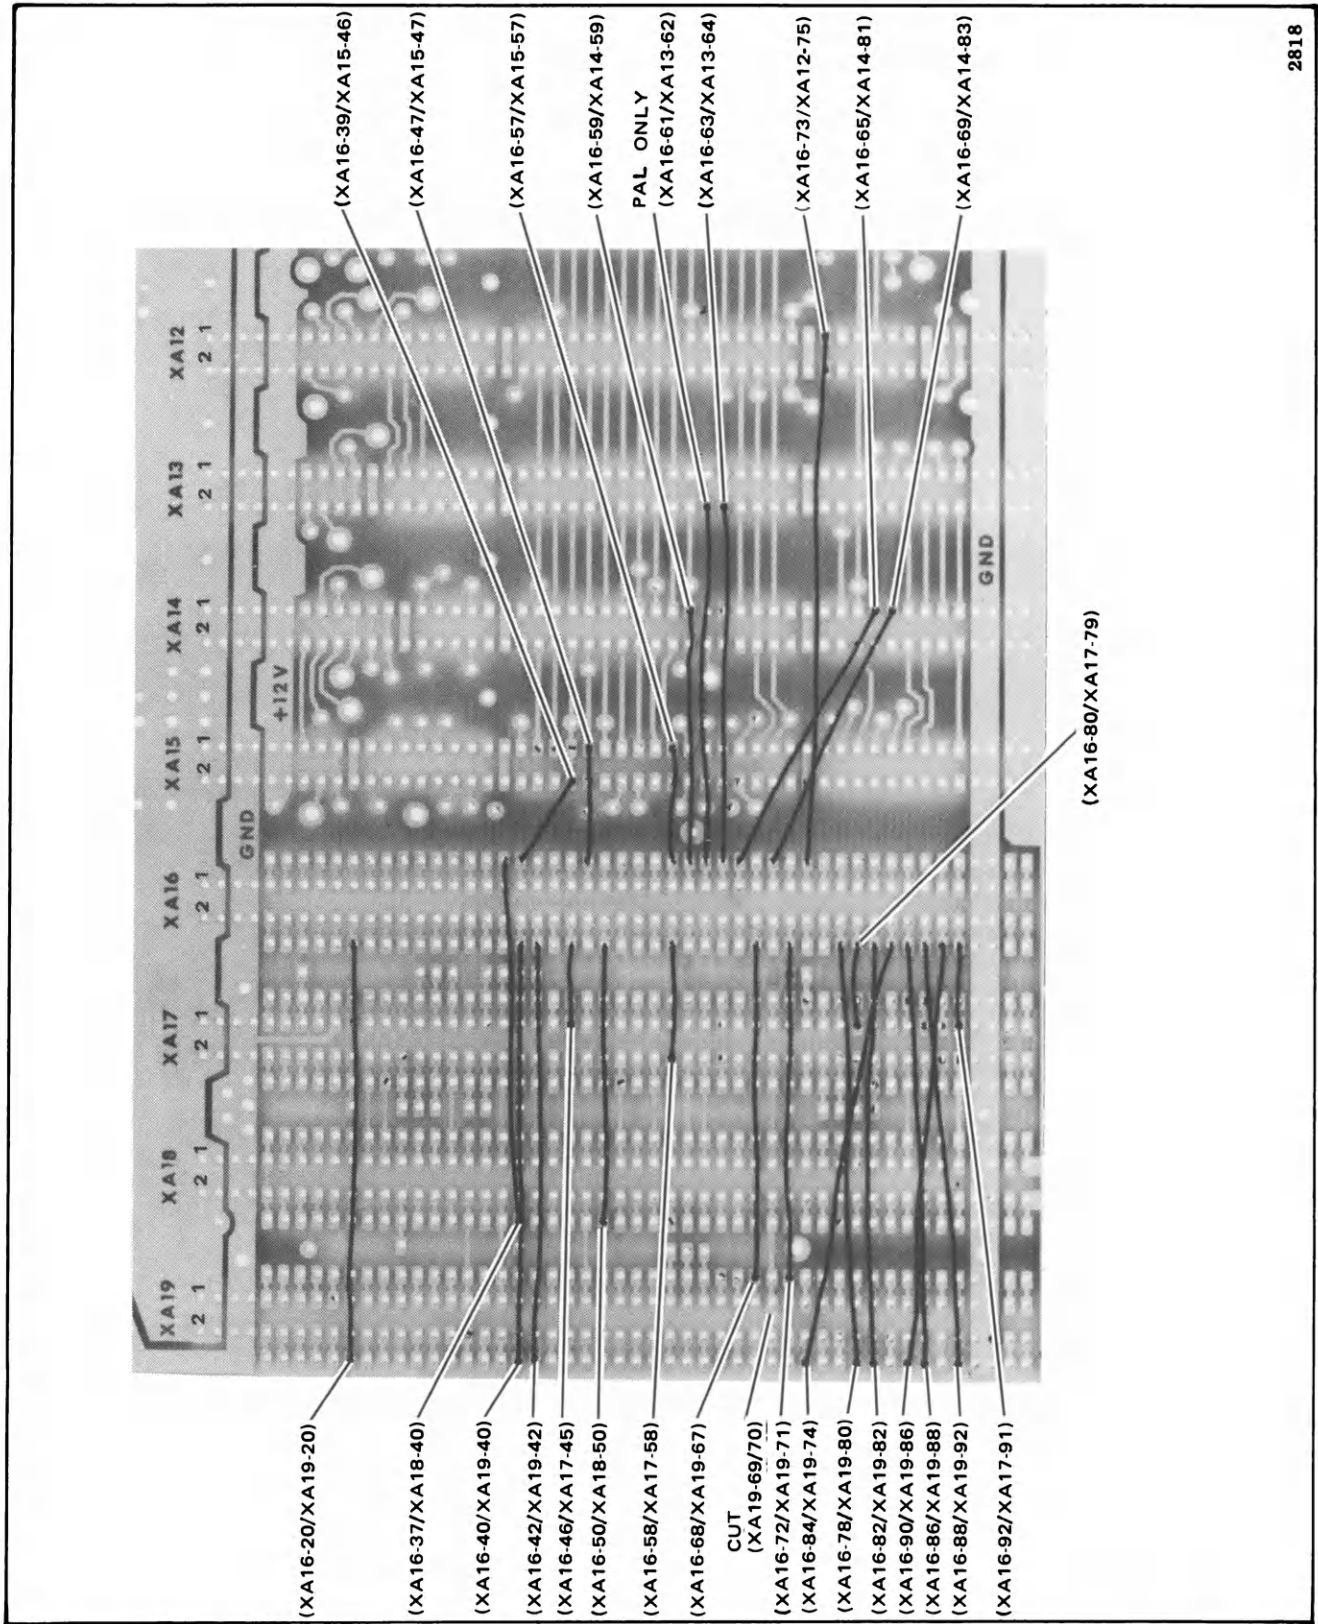

Figure 1. Motherboard, Left Portion
- a. Trace between XA19-69 and XA19-70 (Figure 1).
3. Add the following jumpers, using 30-gauge wire (part no. 615-095), to the circuit side of the motherboard (referring to Figure 1 except as otherwise indicated):